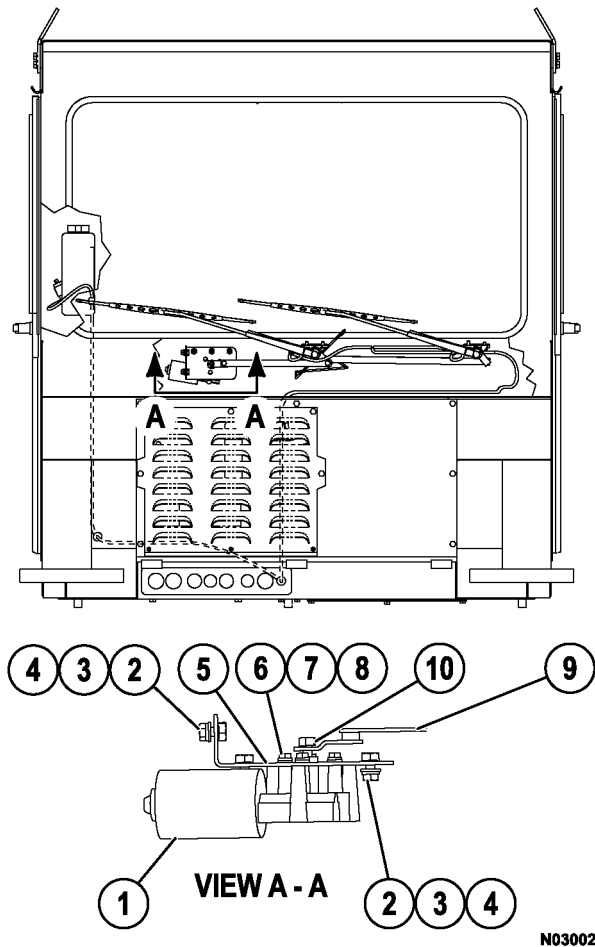

FIGURE 3-1. WINDSHIELD WIPER INSTALLATION
3. While holding the linkage stationary, remove nut (10, Figure 3-1) and disconnect the linkage from the motor.
4. Remove three cap screws (6) with washers attaching the wiper motor to plate (5). Remove the motor assembly.
1. Place wiper motor (1, Figure 3-1) into position on plate (5).
2. Install three cap screws (6) with flat washers (7) and lock washers (8). Tighten the cap screws to **8 - 9 N·m (71 - 79 in. lb)**.
3. Align the motor output shaft with the wiper linkage. Install nut (10) and while holding the linkage stationary, tighten the nut to **22 - 24 N·m (16 - 18 ft lb)**.